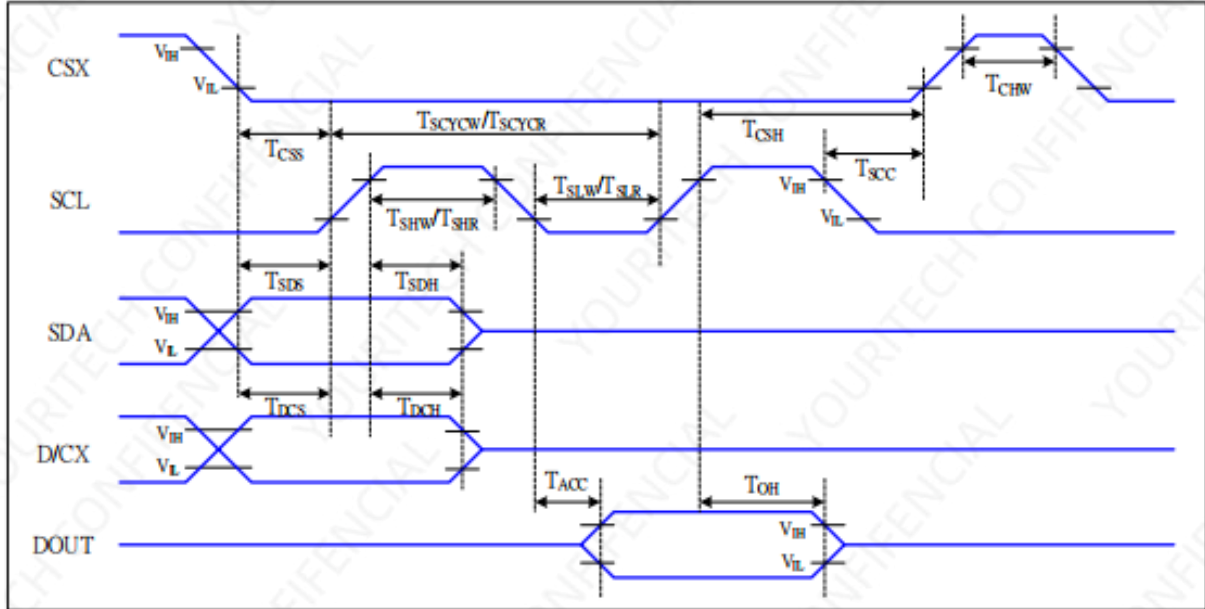

Figure 2 4-line serial Interface Timing Characteristics
5. The electro-optical response time measurements shall be made as FIGURE 2. The times needed for the luminance to change from 10% to 90% is T_r , and 90% to 10% is T_f .